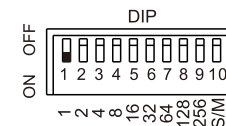

Fig.5
- (1) When SW10 is OFF (slave machine state), SW1-9 are used to indicate the DMX address, and the remote control function is invalid.
- (2) When all the slave machines have the same DMX address of 001 (shown in Figure 5), they will work synchronously with the master machine.
- (3) The Slave machines could also have an increasing DMX address by 4, for example, 001, 005, 009...when there is a DMX console connected, or 005, 009, 013...when the group runs the master-slave mode. As such, all light engines will run the program with a scrolling effect.